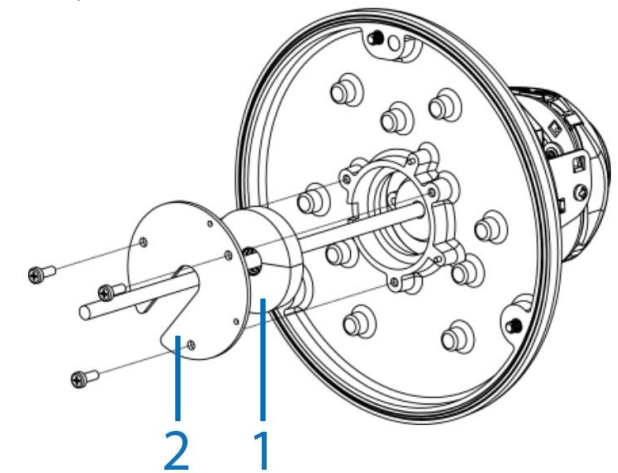

Figure 6
- Insert the camera cable through the waterproof rubber seal (1) (Figure 6) and holding bracket plate (2) (Figure 6) and securely attach the bracket plate to the camera base with the three M2 x 6.5mm BK screws.
- F. Insert the camera cable through the waterproof rubber seal (1) (Figure 6) and holding bracket plate (2) (Figure 6) and securely attach the bracket plate to the camera base with the three M2 x 6.5mm BK screws.